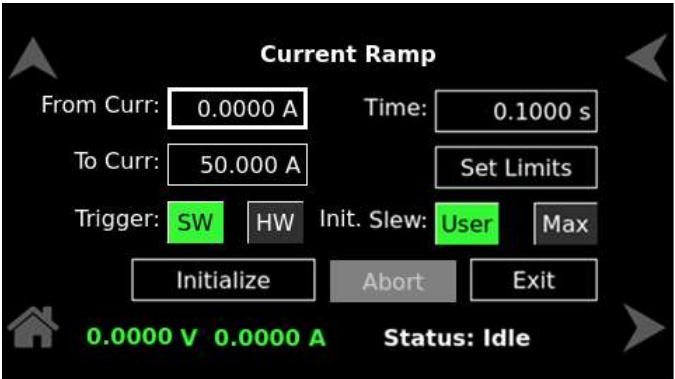

Figure 8-76. Status – IDLE
**a) IDLE** - When the system is in Idle (not performing any task) situation, refer to Figure 8-76.